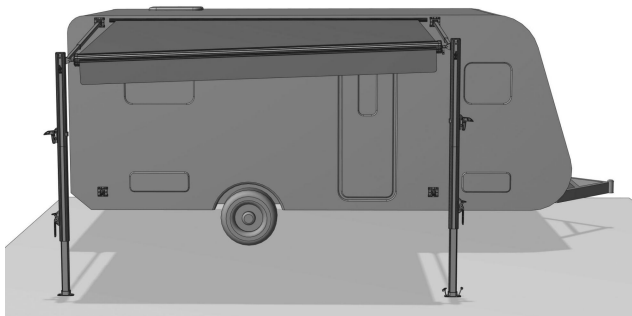

Figure D19
4.2.8 We recommend that the awning be used only for the purpose of sun protection. In case of bad rain, snow and wind, please close the awning to prevent damage. If the awning is used in light rain, adjust the length of the support leg and tilt one side of the awning to quickly drain water.(Figure D19)